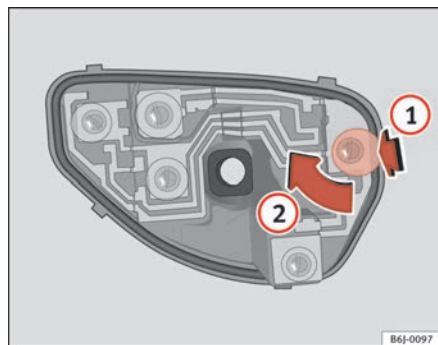

Fig. 157 Changing bulbs on rear lights
- Once the lamp holder has been removed, press in the direction of the arrow (1) and at the same time, turn in the direction of the arrow (2) ⇒ fig. 157. ■